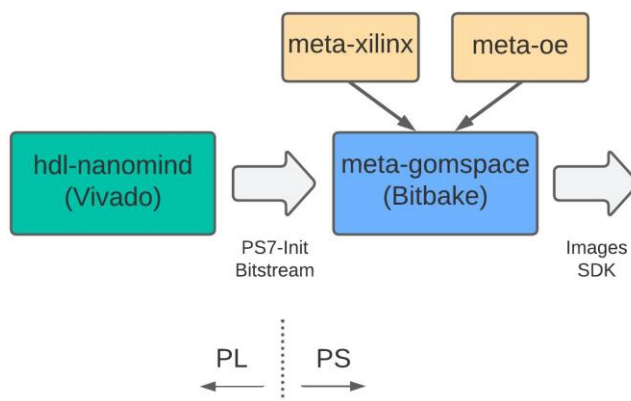

Figure 11.1: Platform Development Kit (PDK)
GomSpace provides meta information for a complete open-source stack, with U-Boot being the bootloader and Linux the high level operating system (HLOS). The PDK is split in two parts; PL development is facilitated through Xilinx Vivado Design Suite whereas Yocto Project (YP) is the tool used for customizing U-Boot, Linux board support package (BSP), Linux distribution, and associated applications. The relation between these and overall flow is depicted in the Figure 11.1.